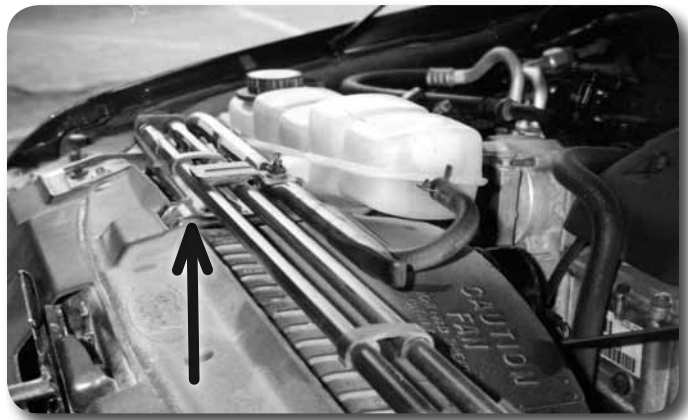

Figure 5
18. Remove the tire iron, jack accessories, and their mounting clamps from the top of the core support Figure 5.